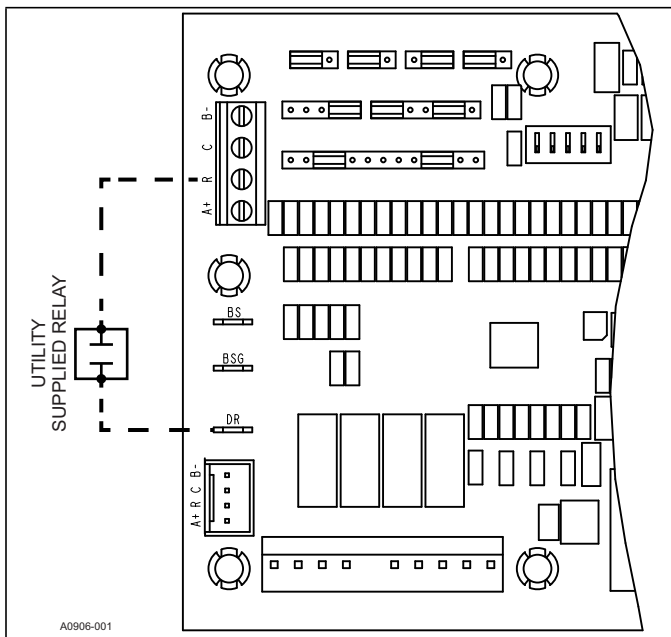

FIGURE 16: Demand Response Wiring
The main outdoor control has a conventional 24VAC input (DR) for utility demand response signals. When a 24VAC signal is present on the DR input with a **communicating system**, the Hx™ thermostat will adjust the indoor temperature setpoint by the installer selected setting. For further details on available settings, please refer to the Hx™ thermostat installation and operation manual. With a **non-communicating system**, a 24VAC signal on the DR terminal will not allow the system to run in second stage, cooling operation only. The DR input terminal location can be found in Figure 16.